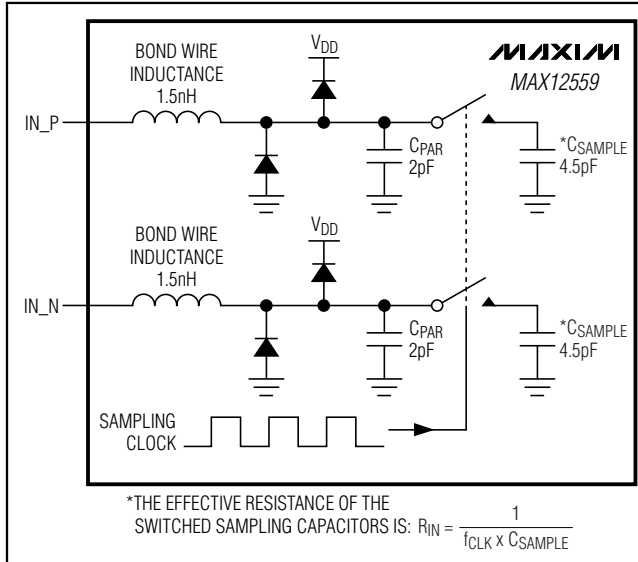
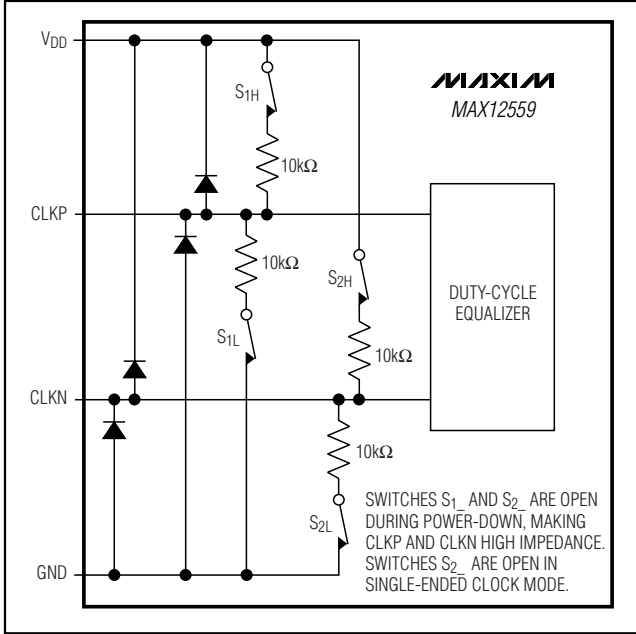
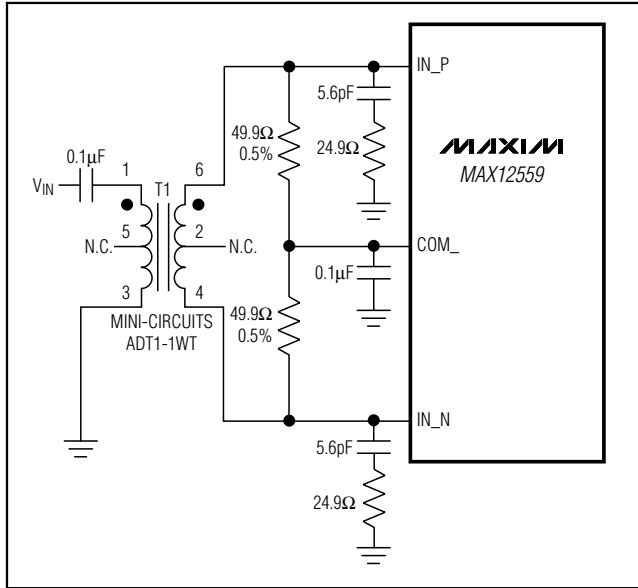
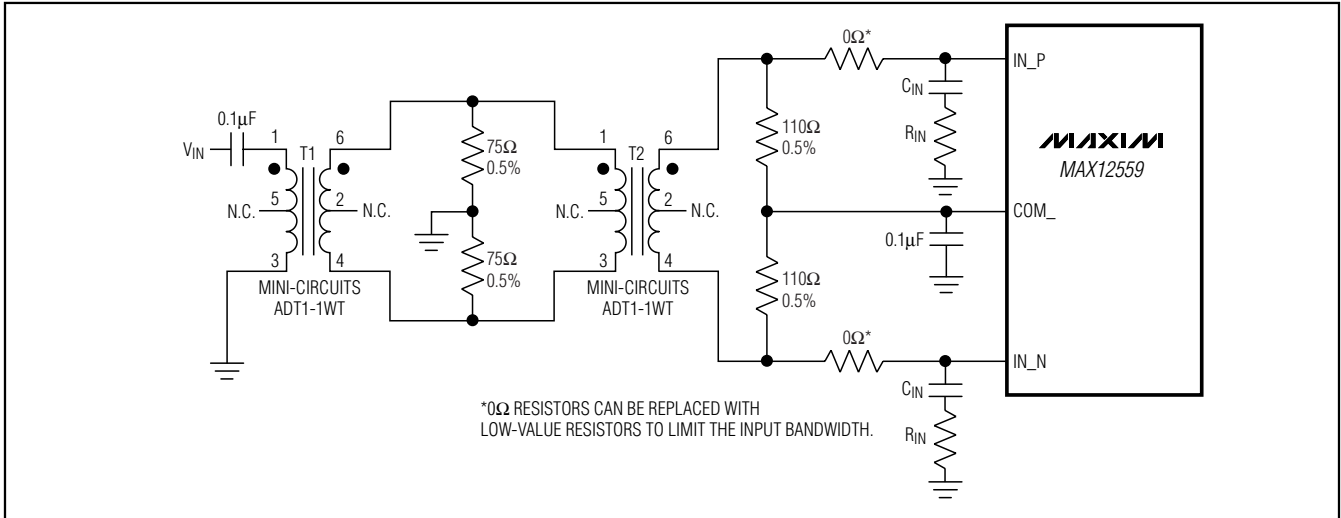

Figure 3. Internal T/H Circuit
Figure 4. Simplified Clock Input Circuit
Figure 9. Transformer-Coupled Input Drive for Input Frequencies Up to Nyquist
Figure 10. Transformer-Coupled Input Drive for Input Frequencies Beyond Nyquist
Figure 3 displays a simplified functional diagram of the input T/H circuit. This input T/H circuit allows for high analog input frequencies (high IF) of 175MHz and beyond and supports a $V_{DD} / 2$ common-mode input voltage.
The MAX12559 sampling clock controls the switched-capacitor input T/H architecture (Figure 3) allowing the analog input signals to be stored as charge on the sampling capacitors. These switches are closed (track mode) when the sampling clock is high and open (hold mode) when the sampling clock is low (Figure 4). The analog input signal source must be able to provide the dynamic currents necessary to charge and discharge the sampling capacitors. To avoid signal degradation, these capacitors must be charged to one-half LSB accuracy within one-half of a clock cycle. The analog input of the MAX12559 supports differential or single-ended input drive. For optimum performance with differential inputs, balance the input impedance of IN_P and IN_N and set the common-mode voltage to mid-supply ($V_{DD} / 2$). The MAX12559 provides the optimum common-mode voltage of $V_{DD} / 2$ through the COM output when operating in internal reference mode and buffered external reference mode. This COM output voltage can be used to bias the input network as shown in Figures 9, 10, and 11.
The MAX12559 accepts both differential and single-ended clock inputs with a wide 25% to 75% input clock duty cycle. For single-ended clock input operation, connect DIFFCLK/SECLK and CLKN to GND. Apply an external single-ended clock signal to CLKP. To reduce clock jitter, the external single-ended clock must have sharp falling edges. For differential clock input operation, connect DIFFCLK/SECLK to O_{VDD} . Apply an external differential clock signal to CLKP and CLKN. Consider the clock input as an analog input and route it away from any other analog inputs and digital signal lines. CLKP and CLKN enter high impedance when the MAX12559 is powered down (Figure 4).
- 1) INAP/B, INAN/B analog inputs are disconnected from the internal input amplifier (Figure 3).
- 6) CLKP, CLKN clock inputs enter a high-impedance state (Figure 4).
An RF transformer (Figure 9) provides an excellent solution to convert a single-ended input source signal to a fully differential signal, required by the MAX12559 for optimum performance. Connecting the center tap of the transformer to COM provides a V_{DD} / 2 DC level shift to the input. Although a 1:1 transformer is shown, a step-up transformer can be selected to reduce the drive requirements. A reduced signal swing from the input driver, such as an op amp, can also improve the overall distortion. The configuration of Figure 9 is good for frequencies up to Nyquist ($f_{CLK} / 2$).
The circuit of Figure 10 converts a single-ended input signal to fully differential just as Figure 9. However, Figure 10 utilizes an additional transformer to improve the common-mode rejection allowing high-frequency signals beyond the Nyquist frequency. A set of 75 Ω and 110 Ω termination resistors provide an equivalent 50 Ω termination to the signal source. The second set of termination resistors connects to COM_ providing the correct input common-mode voltage. Two 0 Ω resistors in series with the analog inputs allow high-IF input frequencies. These 0 Ω resistors can be replaced with low-value resistors to limit the input bandwidth.
The input network in Figure 10 can be modified to enhance the frequency-range-specific AC performance of the MAX12559 by simply replacing the input capacitance with a series network of resistor (R_{IN}) and capacitor (C_{IN}). Table 4 displays a selection of resistors and capacitors that are recommended to help improve the already excellent performance of this ADC for specific applications requiring only a certain range of input frequencies.